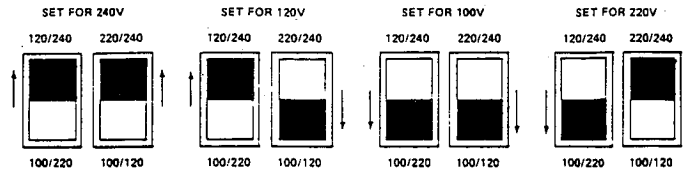

Figure 3.1. Voltage Selection.
4. Verify the voltage select switches are in the correct position (SW2, SW3) for the line voltage in use. See Figure 3.1.